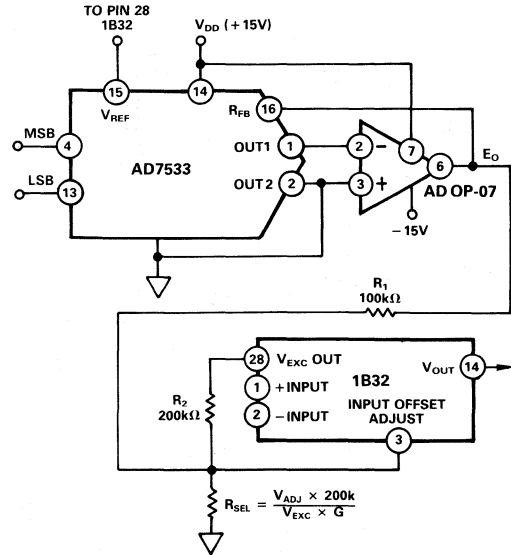

Figure 18. Output Offset Adjust Using a 10-Bit DAC
**Digital Output Offset Adjust:** A 10-bit multiplying DAC such as the AD7533 can be used to control the output offset of the 1B32 as shown in Figure 18. The DAC is configured for unipolar operation with an AD OP-07 generating a voltage output. This 0-10V output is attenuated by  $R_1$  and  $R_{SEL}$  and superposed on another fixed voltage derived from  $V_{EXC}$ . Thus the voltage at Pin 3 (INPUT OFFSET ADJUST) is insensitive to the tempo of the excitation voltage since it is also used as the reference of the DAC. For best performance  $R_1$  and  $R_2$  should track to ±5ppm/°C. As an example, a ±5V output adjustment can be obtained by using  $R_{SEL} = 200\Omega$  for  $G = 500$  and  $V_{EXC} = 10V$ .
DIGITAL INPUT MSB    LSB	ANALOG OUTPUT ( $E_0$ as shown in Figure 18)